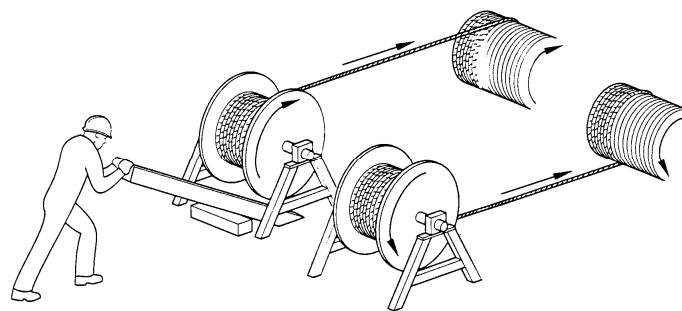
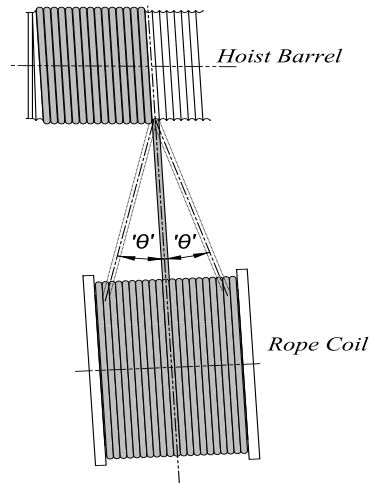

Figure 26 – Winding of new wire ropes
Figure 27 - Fleet angle
If it is not possible to uncoil the rope prior to fitting, the rope may be transferred directly from the reel to the hoist barrel. Place the reel on a suitable stand and ensure that the reel can rotate freely. When winding from reel to barrel the rope should be bent in the same direction. Wind from top of reel to top of barrel or from bottom of reel to bottom of barrel (see Figure 26).
- Transfer the new rope onto the hoist barrel. Ensure that sufficient tension is applied to the reel to prevent loops from forming. Tension can be applied with suitably gloved hands or with a brake on the reel (see Figure 26). During installation, also ensure that the fleet angle 'θ' does not exceed 1½°, (see Figure 27).